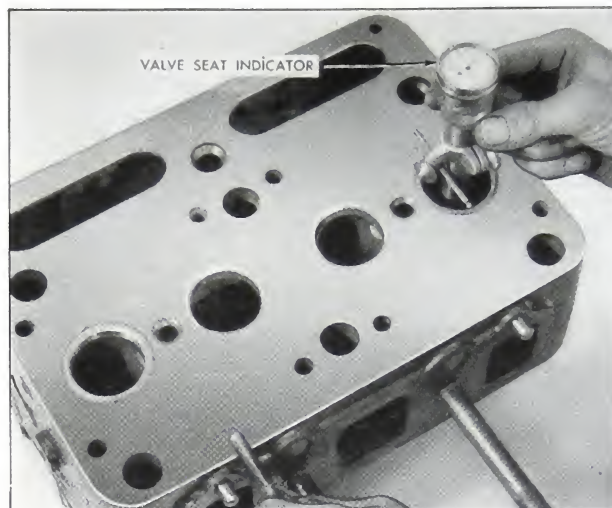

Fig. 3-18. Checking valve seat
7. After valve seats are finish ground, check guide alignment with eccentrimeter as shown in Fig. 3-18. The gauge must be a perfect fit on the pilot mandrel. Run-out should not exceed .001 inch.